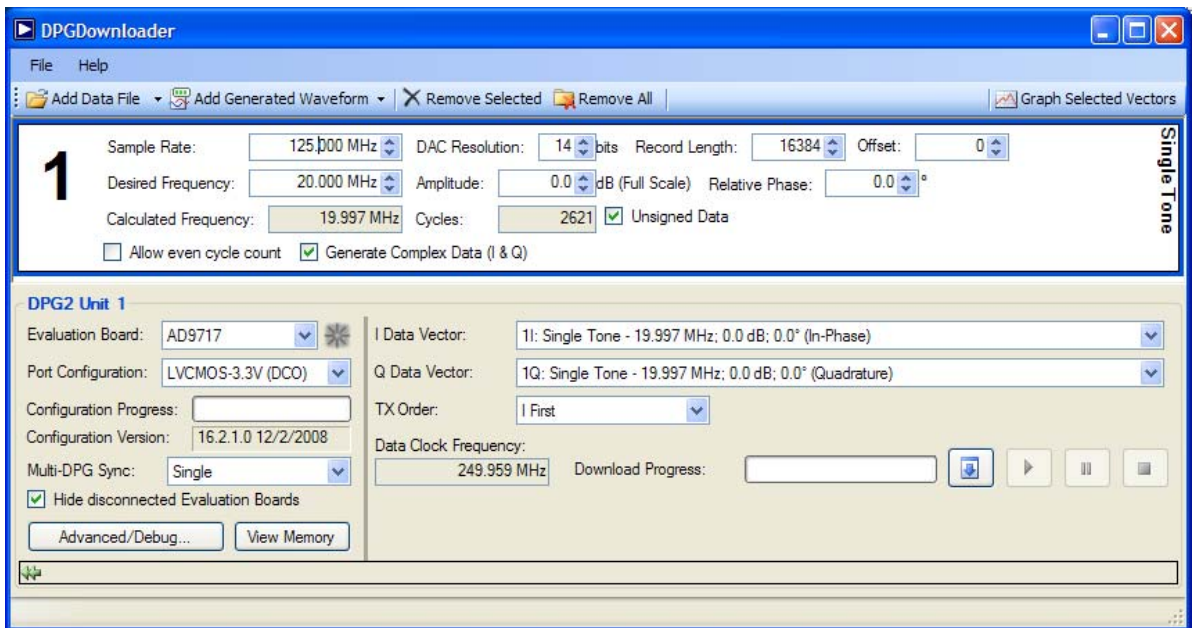

Figure 8. DPGDownloader
2. Input the  $f_{DAC}$  as the **Sample Rate** and enter 20 MHz for **Desired Frequency**. The **DAC Resolution** value is 14 bits, **Amplitude** of 0dB and **Record Length** is 16384, as shown in Figure 8.